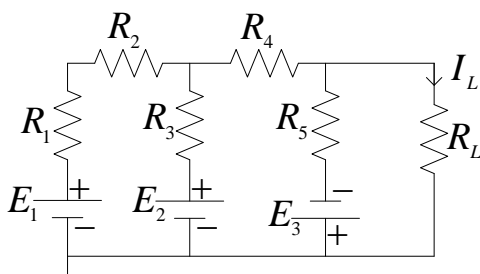

Figure 1. Circuit with all sources active.
1. Theoretically calculate the values of  $I_L$ ,  $I_{L1}$ ,  $I_{L2}$ , and  $I_{L3}$  of the circuits of Figures 1 through 4. From the calculated values, show that the superposition theorem holds, that is,  $I_L = I_{L1} + I_{L2} + I_{L3}$ .